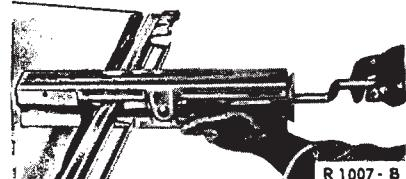

FIG. 17—Glass Channel Replacement
6. Remove the glass channel from the glass with the tool shown in Fig. 17.
1. Install the glass in the glass channel with the tool shown in Fig. 17.
1. Using the tool shown in Fig. 17, remove the channel from the glass.
7. Remove the glass channel from the glass with the tool shown in Fig. 17.
11. Remove the glass from the channel with the tool shown in Fig. 17.
7. Remove the glass channel from the glass using a removal tool such as shown in Fig. 17.
1. Install the glass channel on the glass using a tool such as shown in Fig. 17.